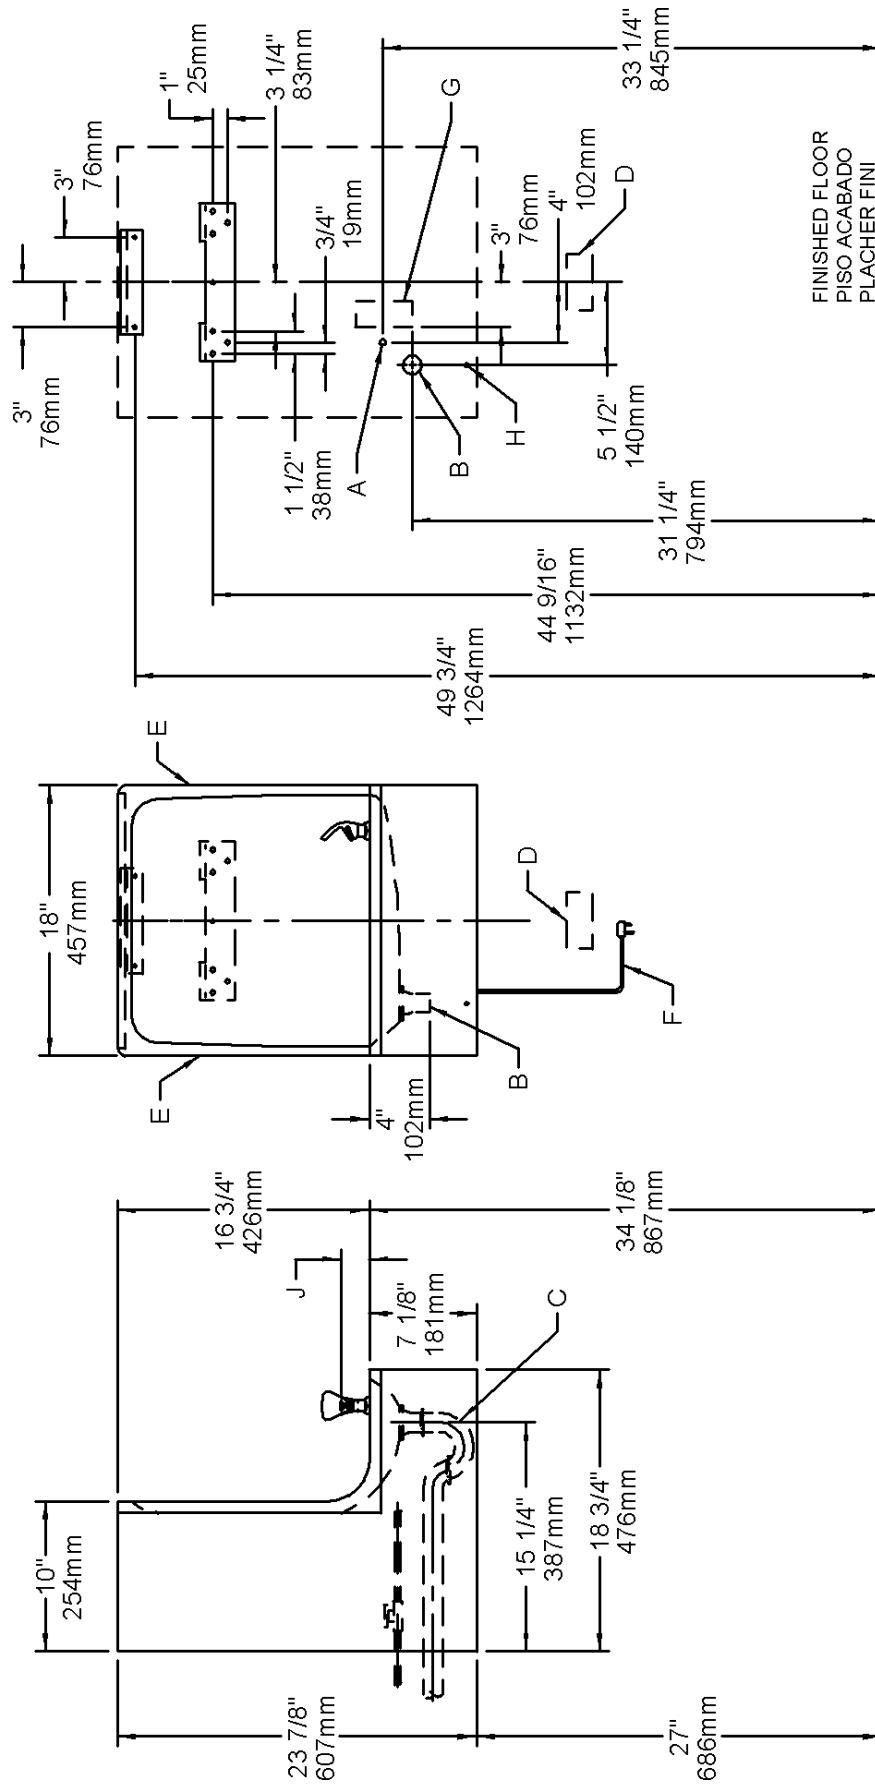

FIG. 2
- 1) Remove hanger bracket fastened to back of cooler by removing one (1) screw.
- 2) Mount the hanger bracket and trap as shown in Figure 2. **NOTE:** Hanger Bracket MUST be supported securely. Add fixture support carrier if wall will not provide adequate support.
- Anchor hanger securely to wall using all six (6) 1/4 in. dia. mounting holes.
- 4) Hang the cooler on the hanger bracket. Be certain the hanger bracket is engaged properly in the slots on the cooler back as shown in Figure 2.
- 5) Loosen the two (2) screws holding the lower front panel at the bottom of cooler base and two (2) screws at the top. Remove the front panel and set aside.